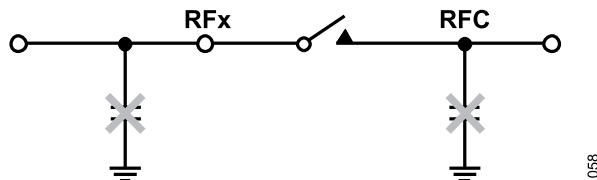

Figure 70. Avoid Large Capacitor Directly Connected to the Switch
- ▶ Avoid connecting capacitive terminations directly to the switch, as shown in Figure 70. A shunt capacitor can store a charge that can potentially lead to hot switching events when the switch opens or closes, affecting the lifetime of the switch.